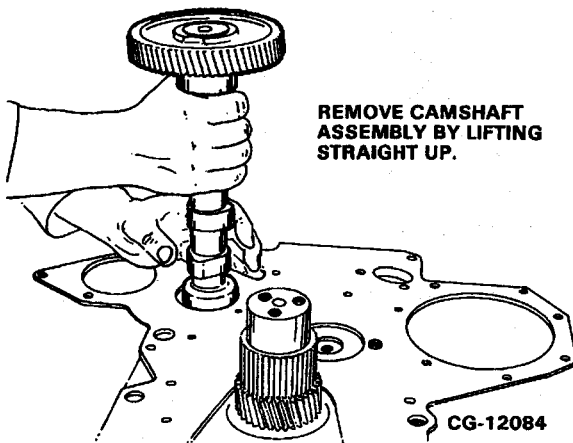

Figure 5.18. Remove Camshaft
6. Remove the camshaft from the crankcase by lifting the assembly straight up. Refer to Figure 5.18.